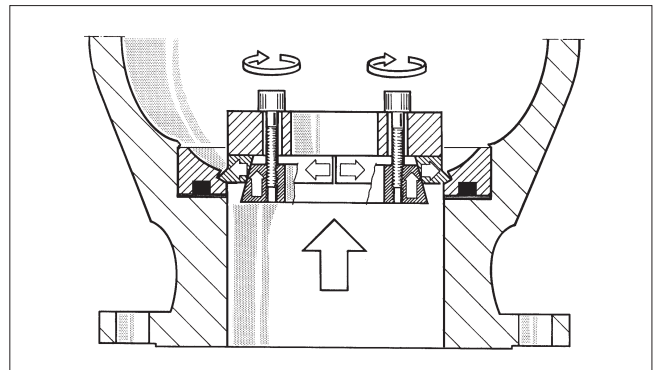

Fig. 17 Removing a locked seat
- Remove the seat (7) from the body cap making sure that it is not damaged during the operation. If the seat is of a locked type, use a special tool which can be ordered from the manufacturer (see Figure 17 and Section 8 'Tools').